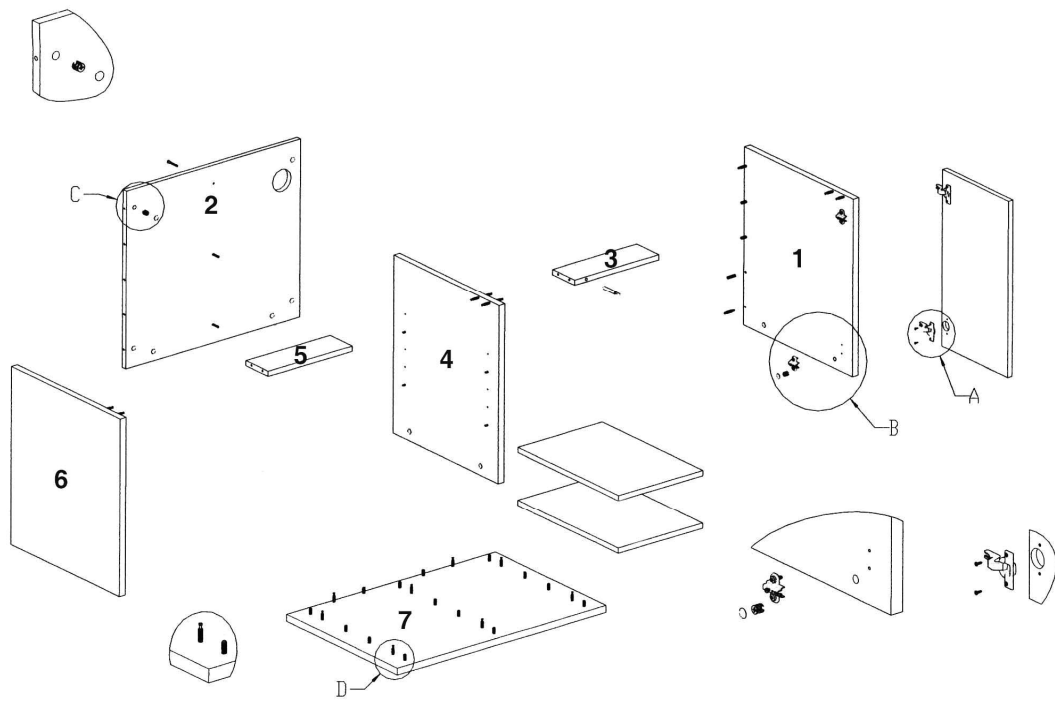

Fig. 1: Cabinet
2. Cabinet's assembly (refer to Fig. 1)
The assembly of the cabinet is done according to the following drawing (Fig. 1). **The upper plate hasn't to be screwed on. It has got four retaining blocks at the bottom so that it cannot slip.** This plate is already fixed at the bottom of the aquarium.